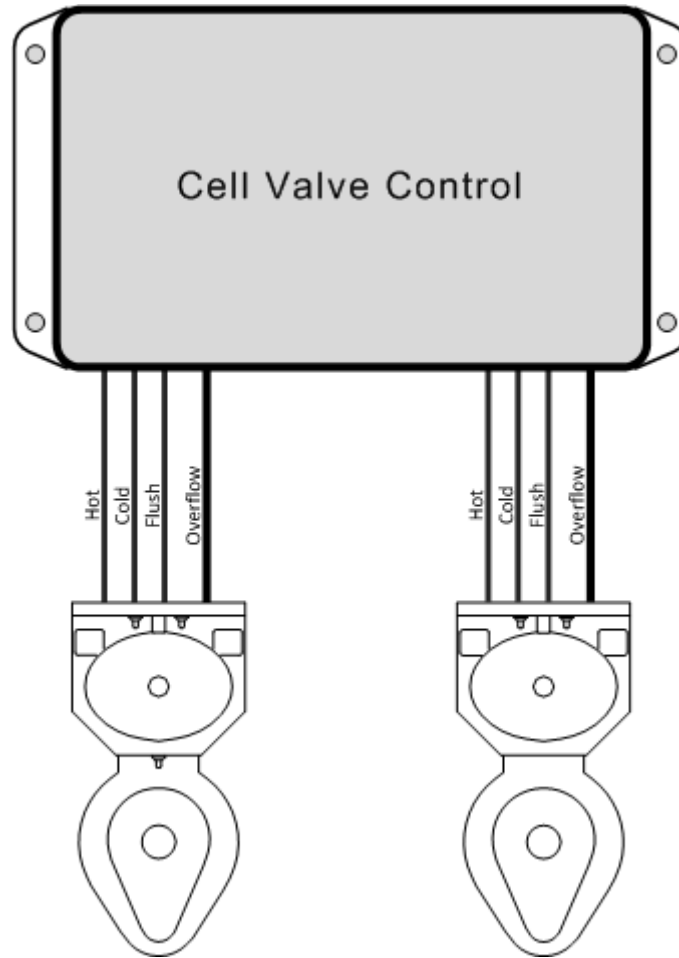

Figure 2 - CVC Connecting to Two Combination Units
*Figure 2* illustrates a Cell Valve Controller connected to two combination units. There are 3 push buttons, 1 overflow sensor (optional) and 3 valves for each combination unit connection to a CVC. This configuration may be used in either networked or stand-alone mode.